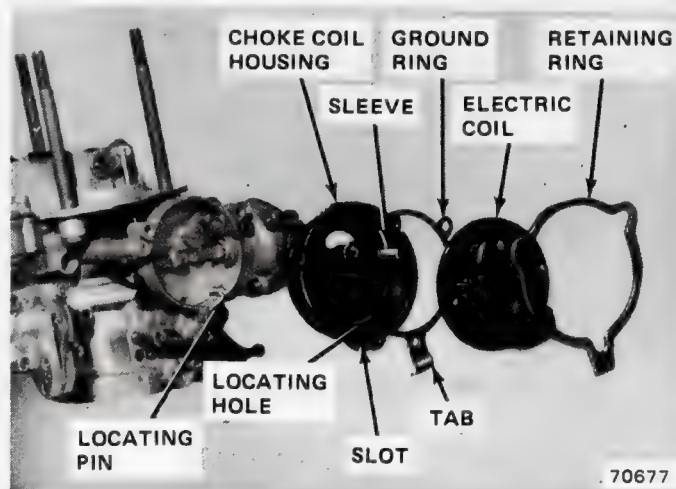

Fig. 1J-28 Assembling Choke Housing
(11) Install bowl vent diaphragm, spring and cover. Be sure vacuum port in air horn, hole in diaphragm and port in housing are aligned. Install retaining screws and lockwashers.
(12) Turn air horn upside down. Install inlet seat and replacement gasket.
(13) Install power enrichment diaphragm and retaining screws.
(14) Install bowl vent valve diaphragm, washer and retainer.
(15) Assemble needle to float assembly. Install float assembly and float pin.
(16) Adjust float height. Refer to Service Adjustment Procedures.
(17) Install choke rod and dust seal into air horn. Snap rod into retainer on choke valve lever.
(18) Position replacement gasket on top of main body. Carefully lower air horn onto main body. Do not bump float. While lowering air horn, position lower end of choke rod into retainer on choke coil lever and snap into place. Assemble identification tag to one air horn screw. Install into hole adjacent to fuel inlet. Install and tighten remaining air horn retaining screws and lockwashers.
(19) Install idle mixture screw and spring. Turn to seat lightly. Then turn out number of turns noted at disassembly. Do not install limiter cap at this time.
(20) Adjust initial choke valve clearance. Refer to Service Adjustment Procedures.
(21) Install choke coil housing. Pin on diaphragm housing must fit into hole in coil housing (fig. 1J-28).